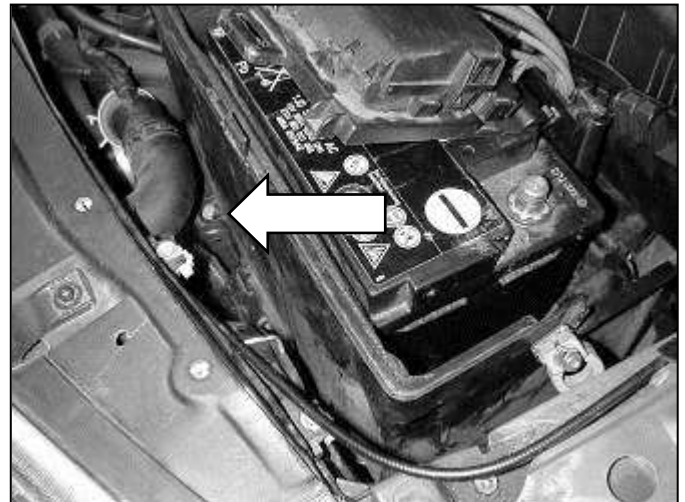

Fig. 4
- d. Remove the three bolts that secure the plastic battery box in place. Two bolts are located at the rear of the battery on both sides of the plastic wire tunnel. The third bolt is located on the radiator side of the battery **(Fig. 4)**. Remove the battery from the vehicle.